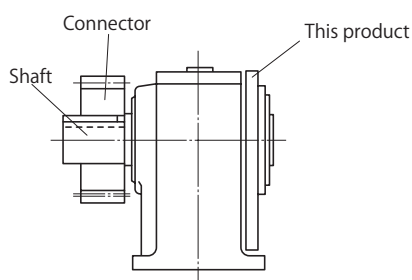
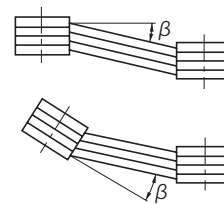

Figure 5-7
Figure 5-8
(2) When Using Chains, Sprockets, or Gears
- The working load point of the sprocket or gear should go from the center of the shaft to this product. (See Figure 5-7)
(3) When Using a V Belt
- The parallelism, eccentricity β of the two pulleys should be within $20'$. (See Figure 5-8)